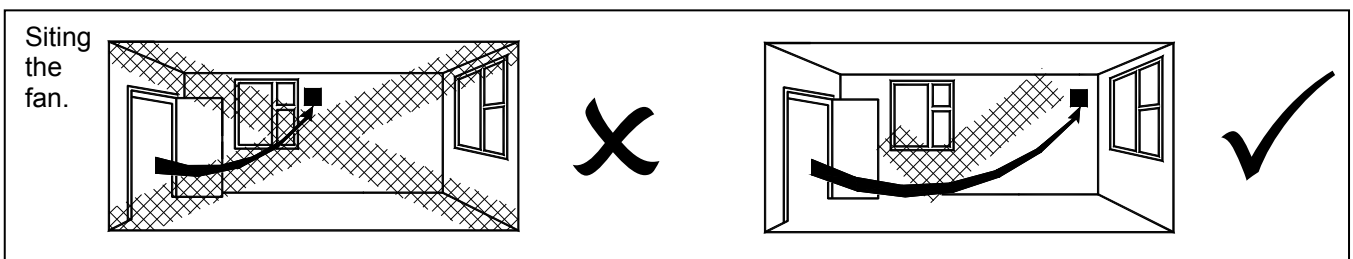

Fig.1 Continuous trickle (6l/s or 9l/s) with no boost facility
1. Select and follow the appropriate wiring diagram. (Fig. 1, 2 or 3)